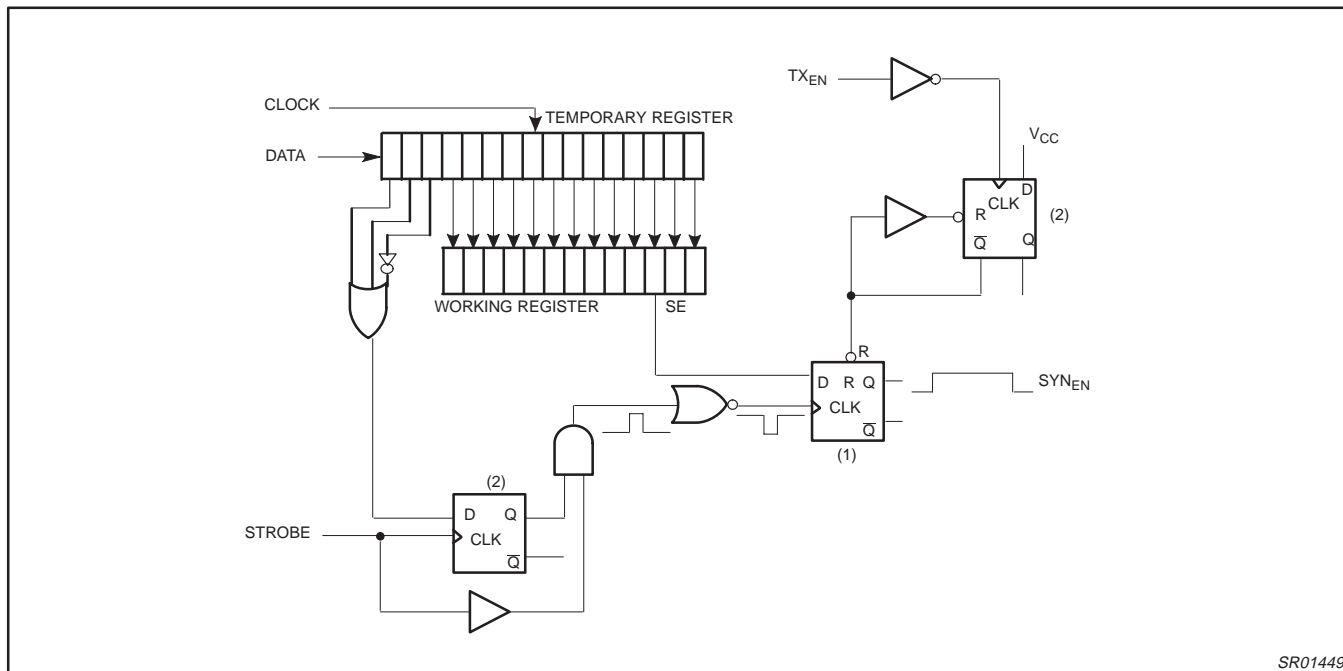

Figure 6. Transmit Offset Synthesizer Reset Circuit
In Figure 6, the falling edge of the strobe and address, inverted, toggles the Q output of flip-flop (1) to a '1' state, enabling the phase detector, VCO, divide by M, TXIF buffer and SSB up-converter. Approximately 80µs after the synthesizer is locked, the TXEN signal (enabled = 1) turns on the modulator and variable gain amplifier. The rising edge of TXEN has no effect on SYNEN, however, the falling (rising inverted) edge toggles the  $\bar{Q}$  output of D flip-flop (2) to a '0' state. This disables the synthesizer, modulator and variable gain amplifier. To insure that slow edges on TXEN do not cause improper operation, the TXEN is a Schmitt trigger design.